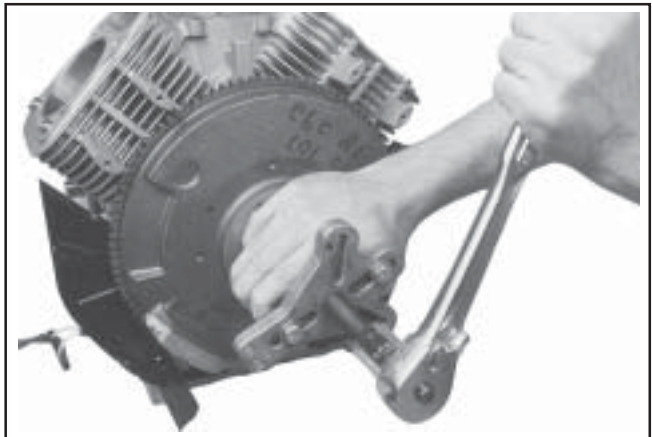

Figure 9-63. Removing Flywheel with a Puller.
3. Use a puller to remove the flywheel from the crankshaft. See Figure 9-63.